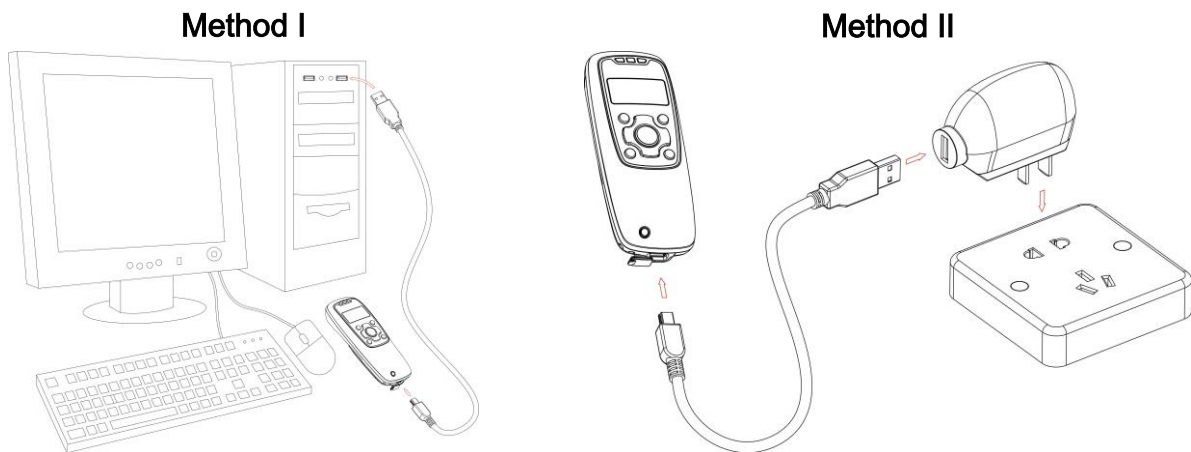

Figure 3-1. Diagram of charging battery
1. **Please charge the battery before the first time of use.** There are two methods of charging battery as demonstrated in Figure 3-1. The charging indicator (red LED) on the scanner is turned on when the charging is in process. When the charging process completes, the red LED is turned off.